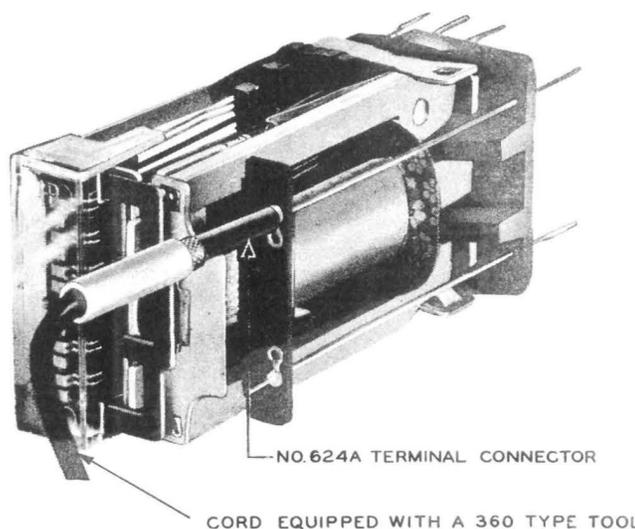

Fig. 10 — Connecting to Winding Terminal of the AF-, AG-, and AJ-type Relays (Wire Spring)
2.03 Connections to Winding Terminals of AF-, AG-, AJ-, and AK-type Relays (Wire Spring) From Apparatus Side of Frame (Front of Frame): Fig. 10 and 11